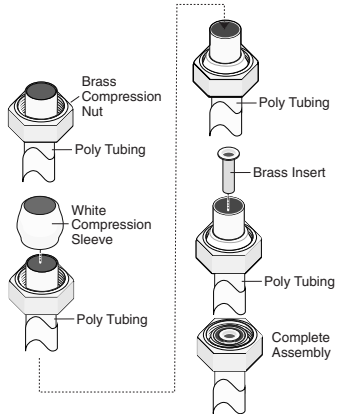

Figure 4
6. Take one of the pieces of plastic tubing and slide a brass compression nut over the end. Slide a white plastic compression sleeve over the end of the tubing and into the nut. Place a brass insert inside the end of the tubing. See Figure 4